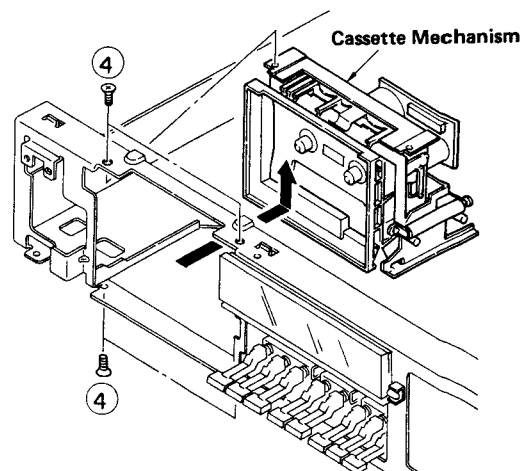

Fig. 2
- d. Remove 4 screws of ④ of Fig. 2, and remove the Cassette Mechanism trying to slide to the back.